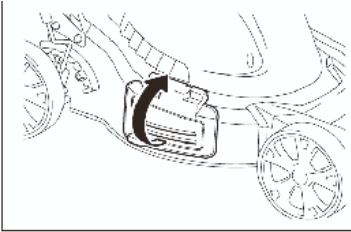

Fig.9C
3. Lift sideward flap for side discharge. (Fig.9C)